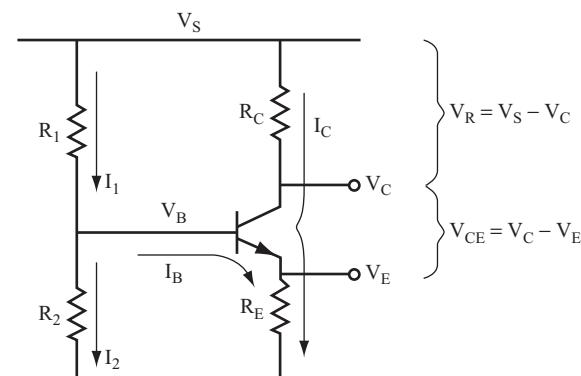

FIGURE 8.6
The labels in Figure 8.6 identify the DC currents and voltages present in the circuit. These parameters are used in the next several problems.
12 Look at the gain first. The gain formula for the circuit shown in Figure 8.6 is as follows:
Use the circuit shown in Figure 8.6 with $R_C = 10 \text{ k}\Omega$ and $R_E = 1 \text{ k}\Omega$ to answer the following questions:
- A.** Calculate the voltage gain (A_v) of the amplifier circuit shown in Figure 8.6 if $R_C = 10\text{ k}\Omega$ and $R_E = 1\text{ k}\Omega$. Then, use A_v to calculate the output voltage if the input signal is 2 mV_{pp} .
Although the amplifier circuit shown in Figure 8.6 produces stable values of voltage gain, it does not produce high values of voltage gain. For various reasons, this circuit is limited to voltage gains of 50 or less. Later, this chapter discusses an amplifier circuit that can produce higher values of voltage gain.
- 14** Before you continue, look at the current relationships in the amplifier circuit shown in Figure 8.6 and an approximation that is often made. You can calculate the current flowing through the emitter resistor with the following equation:
6. Find I_2 where I_2 is $10I_B$. (Refer to the circuit shown in Figure 8.6.) This is a convenient rule of thumb that is a crucial step in providing stability to the DC bias point.